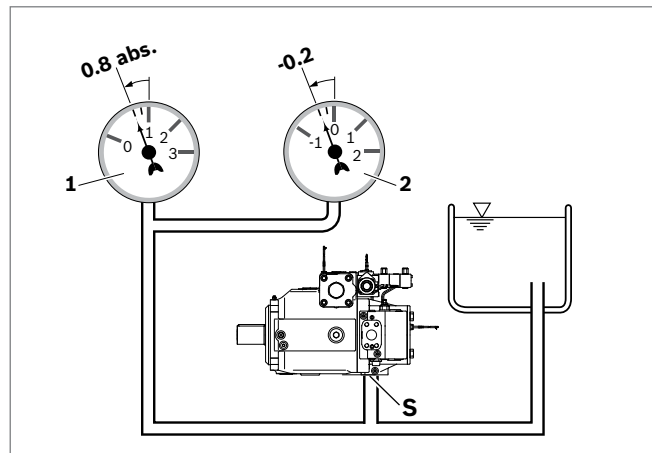

Fig. 7: Boost pump suction pressure
- Make sure that a minimum suction pressure of 0.8 bar absolute is present at port **S** during operation and after a cold start for all installation positions and installation locations of the axial piston pump; see Fig. 7. See data sheet 92105 for other pressure values.